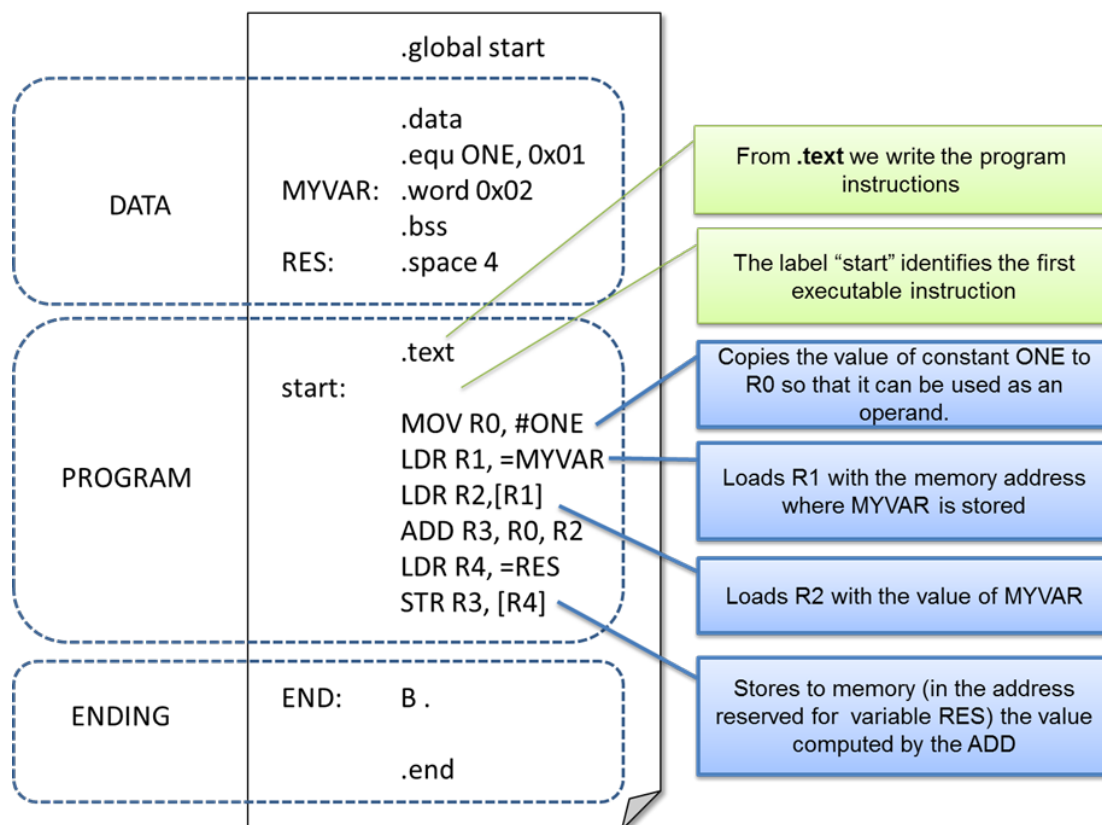

Figure 1.4 Structure of an assembly program: instructions
- **Instruction:** the mnemonic code of an instruction of the target architecture (one of those described in Section 1.4, see Figure 1.4). Sometimes the operands may be modified by the use of labels in order to simplify program writing. This has been the case we have just described, where the memory address referenced by a load instruction is indicated as a label, and it is under the responsibility of the assembler to encode this address as a base register plus an offset.